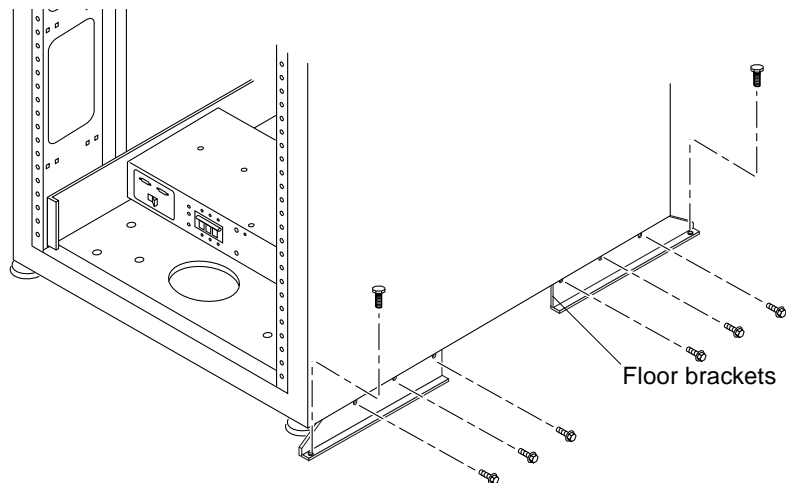

FIGURE 2-6 Attaching the Floor Brackets
- Using a 7/16-inch wrench, attach the right floor brackets to the front and back of the storage system (FIGURE 2-6).